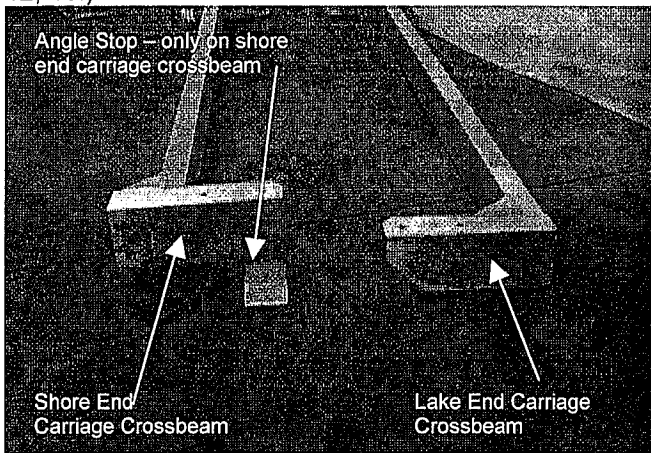
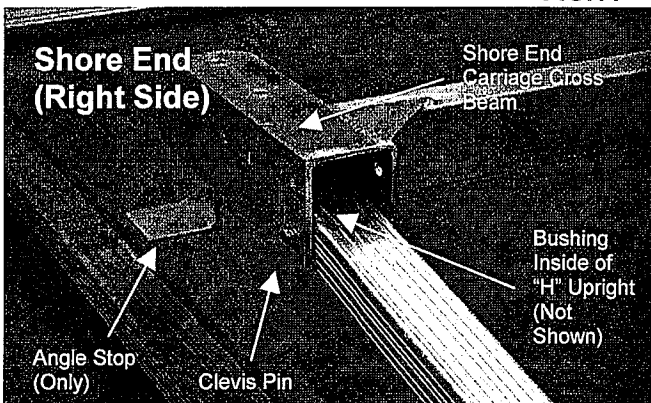

FIG.11
FIG.12
1. Locate shore end carriage cross beam (See FIG.11). The shore end carriage cross beam has the angle stop (See FIG.11). Mount the shore end carriage cross beam onto shore end "H" upright as follows: Slide the white plastic bushing into the sleeve on the top end of the "H" upright (See FIG.12,13). Place the end of the "H" upright in line with the lower hole on the shore end carriage cross beam and slide clevis pin through the bushing and bottom hole on the shore end carriage cross beam. Place the locking ring through the hole on the end of clevis pin (See FIG.13, 13A).
3. Repeat the previous steps on the lake end carriage cross beam (See FIG.11&14).
Note: Always mount your clevis pin with the clevis pin bolt head on the outside of the frame and the locking ring on the inside of the frame (See FIGS. 12, 13.)